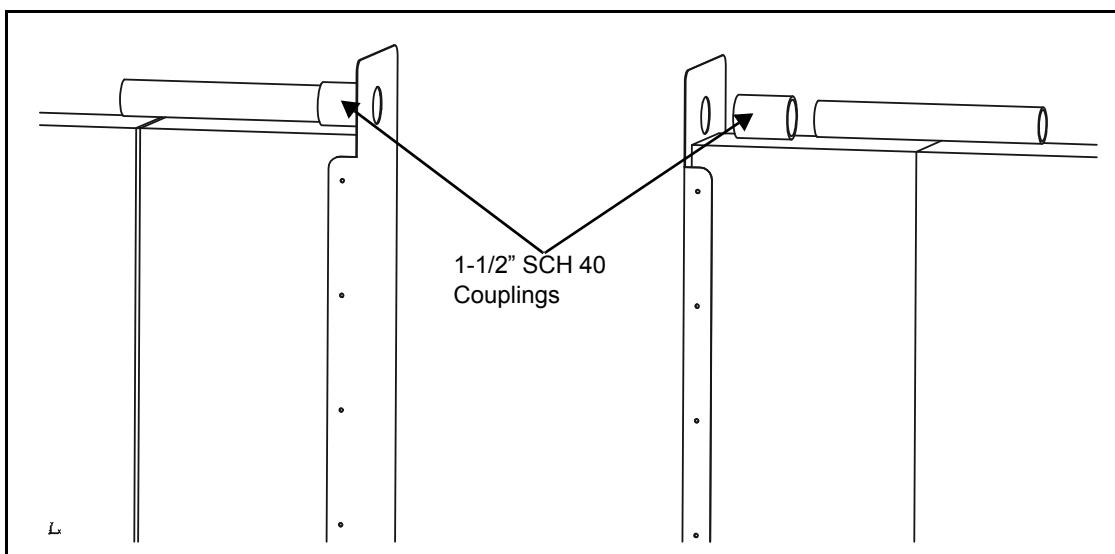

Figure 1C
Step 6: Take 1-1/2" SCH 40 Couplings (60-0081) and place on inside of evap system connecting to spray bar, DO NOT GLUE SPRAY BAR. Be sure that all holes in the spray bar are facing up to insure proper distribution of water onto the pads. (See Fig. 1C).